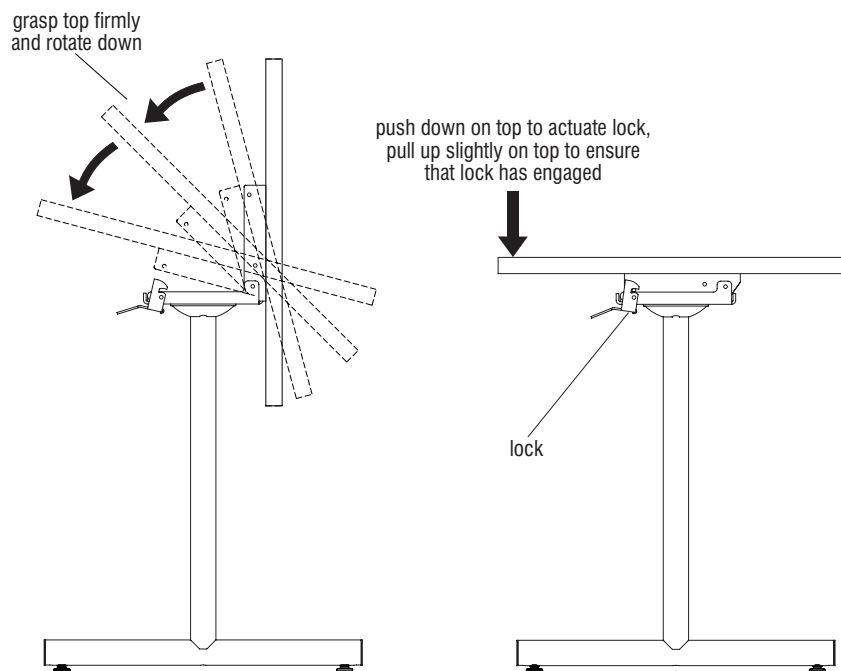

Figure 11
1. Grasp table top firmly, lower into place and press down on front edge to lock the table top into place (Figure 11).
2. Lift up slightly on front edge of top to ensure it is locked in place. Apply more down ward pressure if it is not engaged (Figure 11).